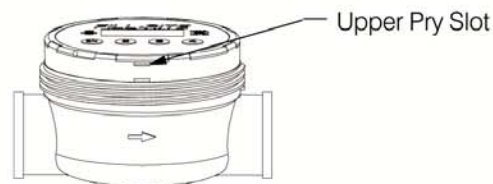

Figure 1
1. Unscrew meter cap (item 1). Use a strap type oil filter wrench if too tight to unscrew by hand.
2. Insert a wide, flat-head screwdriver into the upper slot and gently pry up electronics module (see Figure 1).